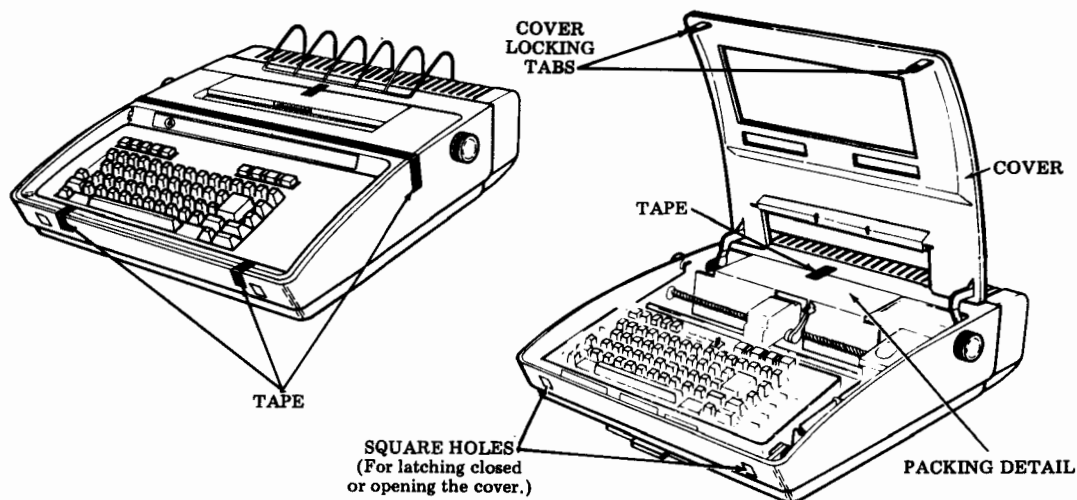

Fig. 2—Packing Detail
3.03 Unpack the large carton. Refer to instructions on the container. Remove tape securing the cover to the housing (Fig. 2).
3.04 Depress the cover locking tabs on the lower front of the cabinet and lift the cover. Remove the packing detail securing the print head in place (Fig. 2).